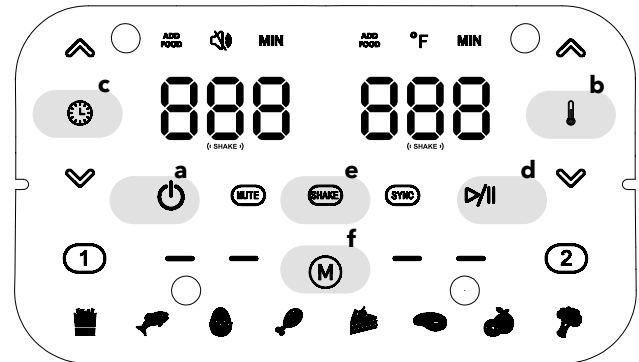

Fig. 1
3. Orient a Basket Divider so that the arrow is outside of the basket and pointing downward (see **Fig. 1**). Push the Basket Divider all the way into the basket's groove slot.
Refer to the highlighted buttons in Fig. 1.